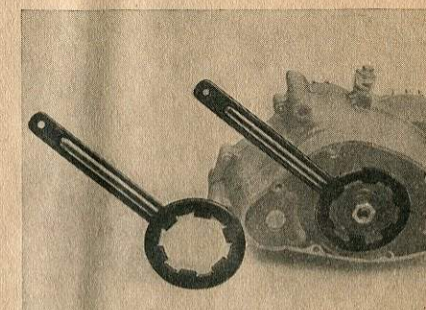

Figure 10: Retaining Tool, Part No. 093031
4. Retaining Tool for unscrewing the clutch case nut (Fig. 10).